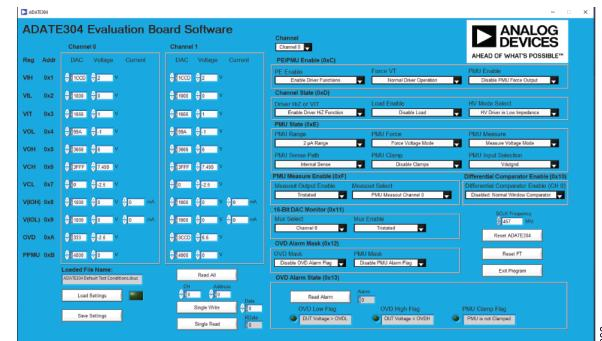
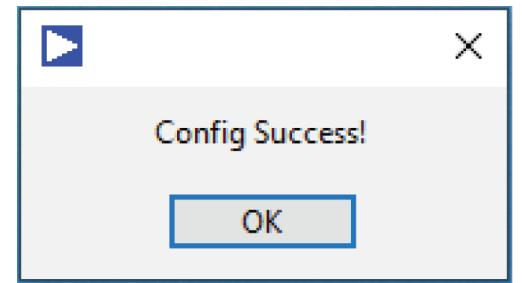

Figure 7. User Interface Default Values
Figure 8. Configuration Success Prompt
- a. When the **ADATE304 Evaluation Board Software** opens, the main window opens if there are no issues (see Figure 4) and displays configuration success (see Figure 8). Otherwise, a command prompt indicating any error appears. Figure 5 shows an examples of error prompt. Follow all the recommendations within the prompt window before attempting to start the software again.
c. To verify the hardware communication, load the **ADATE304 Default Test Conditions.sbus** file. If the EVAL-ADATE304BBCZ successfully communicates with the PC, the software user interface (see Figure 7) reflects the default values (see the **ADATE304** data sheet for more information). If the user interface does not reflect the default values, perform the following steps:
6. Open the **ADATE304 Evaluation Board Software**, the command prompt displays configuration success (see Figure 8). Then, load the **ADATE304 Default Test Conditions.sbus** file to confirm if the user interface reflects the default values of the registers (see Figure 7).